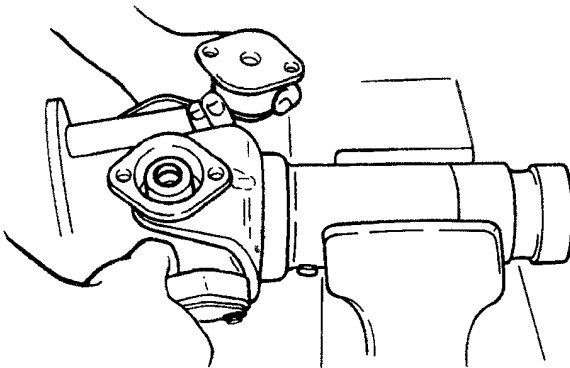

Figure 25 Position Bearing Cap Over Bearing Surface
7. Move the cross to the other cross hole so that the journal is beyond the machined surface of the yoke lug. Position the other bearing cap over the bearing surface and slide it into the cross hole in the yoke (Figure 25). Seat the bearing plate on the lug mating surface and assemble lockstrap (if equipped) and bolts. Tighten bolts. Refer to the Torque Chart (See TORQUE, page 34) for torque specifications. If equipped, bend lockstrap tab over to lock the bolts.